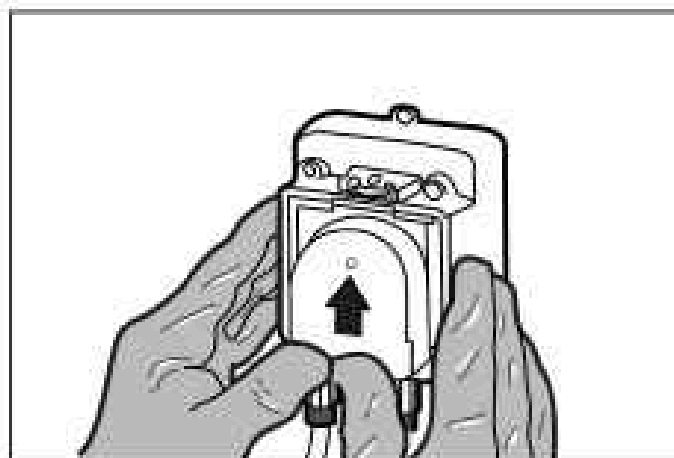

Figure 18. Slide Cover Off
3. To slide the cover off, push up on the raised edge. See Figure 18.